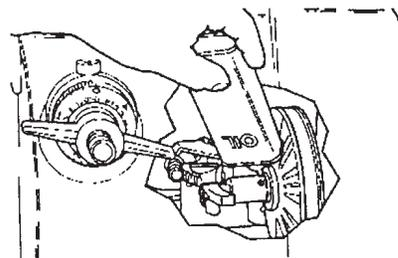

Figure D-2
5. Oil the upper control sheave first. While looking through the nameplate opening, turn the main spindle by hand until you locate the hole in the sheave. With the oil can tube inside the headstock apply 2-5 drops of oil in the hole, as seen in Figure D-2.